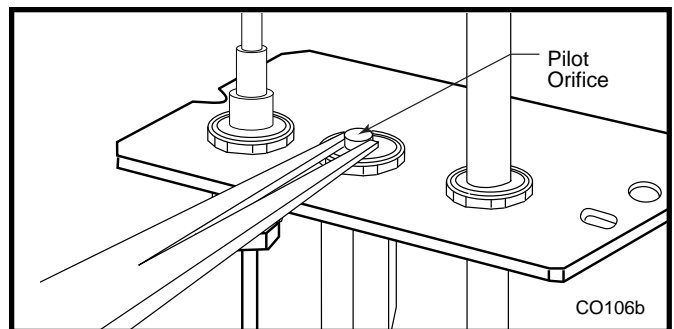

Fig. 62 Remove pilot orifice.
- Remove pilot orifice with needlenose pliers. (Fig. 62)